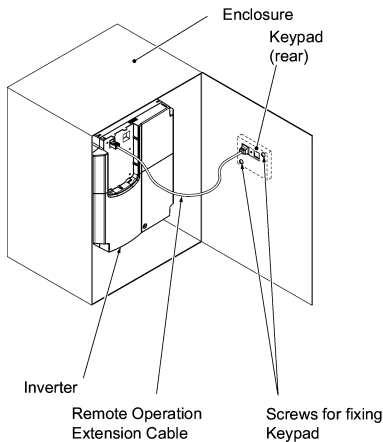

Figure 2.30 Mounting it on the Enclosure Wall
- Mounting a keypad on the enclosure wall (Refer to Figure 2.30.)